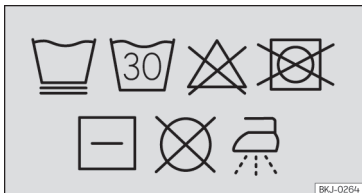

Fig. 115 Label on the covers: washing instructions symbols
- **Washing instructions for removable covers »» Fig. 115:**